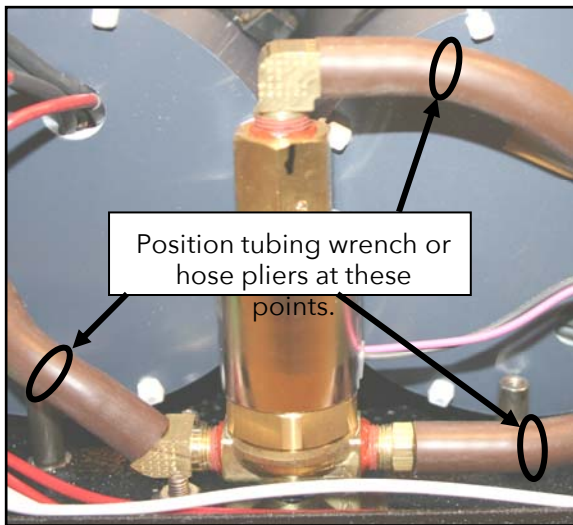

Figure 3. DISCONNECTING THE AIR HOSES.
6. Using a tubing wrench or vacuum tube pliers, grab hold of each of the three air hoses about 1 inch in from the end, then pull gently to disconnect the hoses from their fittings. Refer to Figure 3.